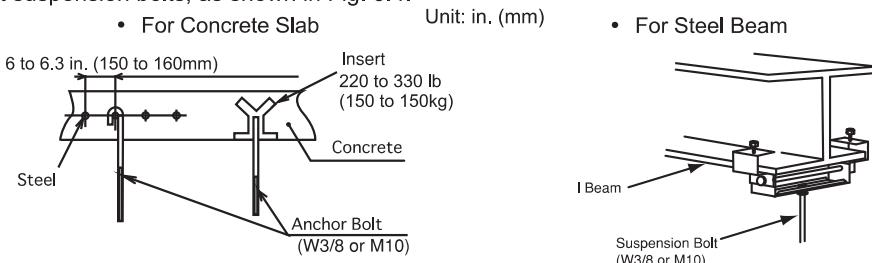

Fig.3.4 Mounting Suspension Bolts
(3) Check to ensure that the ceiling is horizontally level, otherwise drainage can not flow.
(4) Strengthen the opening parts of the false ceiling.
(5) Mount suspension bolts, as shown in Fig. 3.4.